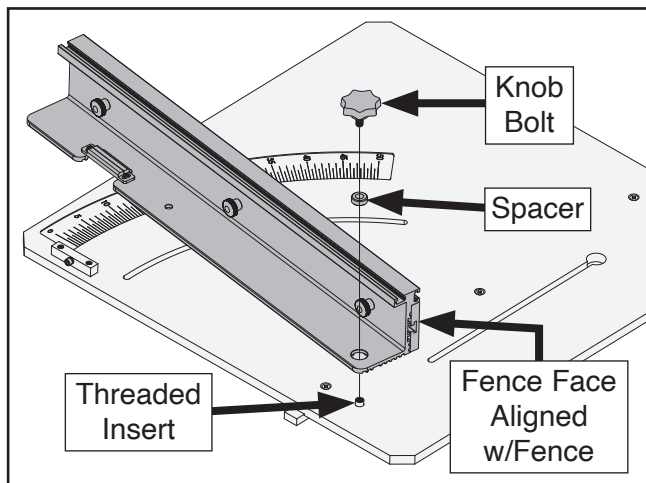

Figure 7. Attaching pivot point of fence to sled.
8. Align fence face with edges of fence so face does not extend past fence on either side (see **Figure 7**), then tighten knobs from **Step 7** to secure.
9. Place spacer into fence hole shown in **Figure 7**, then place fence hole over threaded insert in sled and secure with $\frac{5}{16}$ "-18 x $\frac{5}{8}$ " knob bolt.